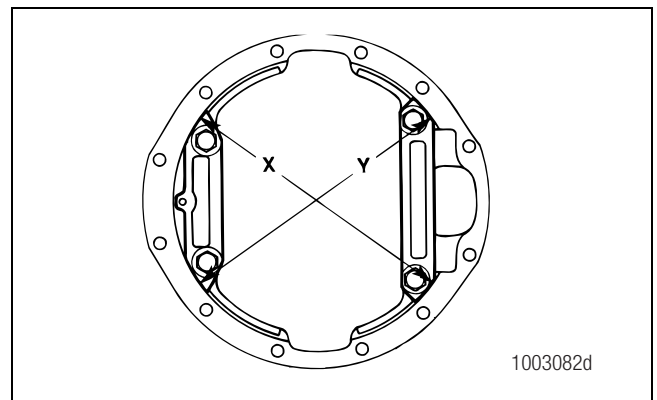
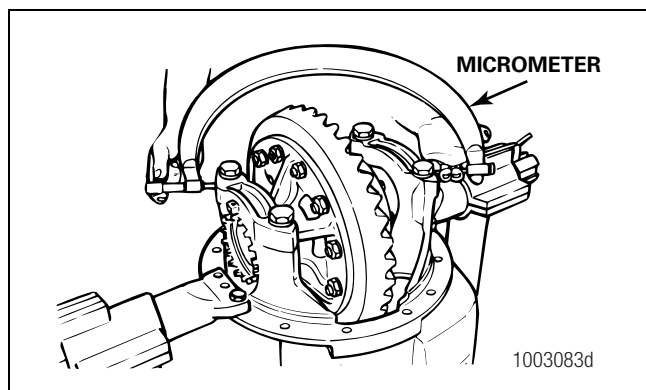

Figure 5.57
Figure 5.58
2. Use a micrometer to measure distance X or Y between the opposite surfaces of the bearing caps. Figure 5.57 and Figure 5.58. Record the measurement.